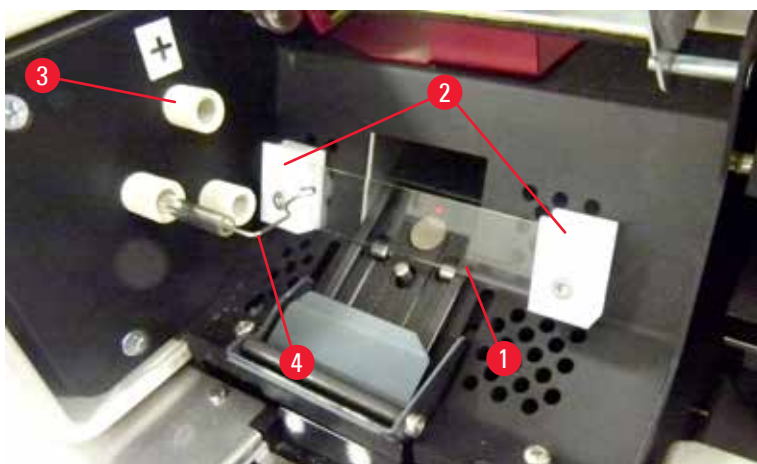

Fig. 17
5. Make sure the contact spring (→ "Fig. 16-2")/(→ "Fig. 17-4") is removed from the ignition wire (→ "Fig. 18-1") of the )bulb (see also (→ "Fig. 17").